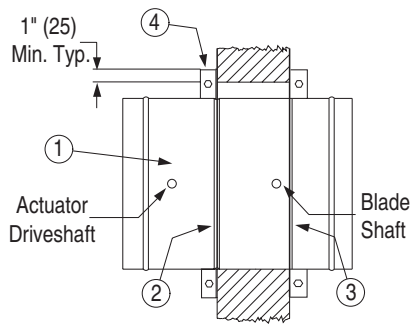

Figure 1. Masonry Wall or Floor
2. The square (drywall/masonry) or round (masonry) wall opening shall be 1" (25) larger than the overall size of the damper diameter.
4. Install retaining plate in groove on actuator side of damper using 1/4" (6) dia. nut and bolt through splice clip. Install damper within wall opening as shown in Figure 1 or 2. Install damper plate and clamp using 1/4" (6) dia. nut and bolt through splice clip. Both retaining and damper plates should be tight to the wall.